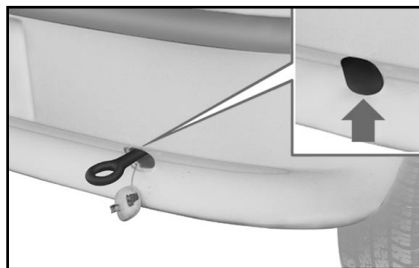
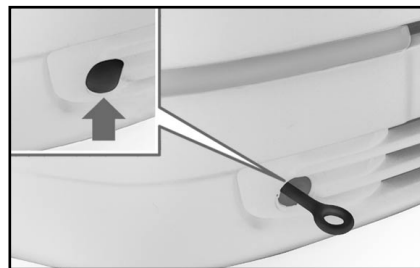

fig. 40
fig. 41
- 2) Remove the cover from the rear bumper **fig. 40** or from the front bumper **fig. 41** by lever with a screwdriver in the point shown by the arrow.